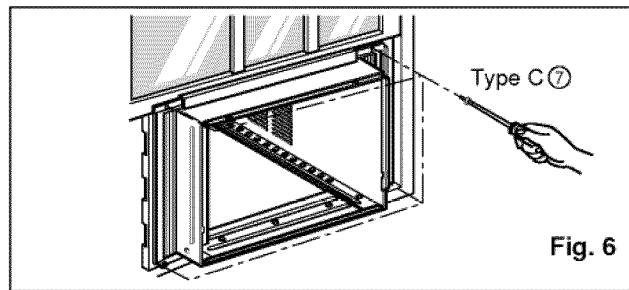

Fig. 6
9. Attach each Frame curtain the window sash using screws ⑦ (Type C). (See Fig. 6)